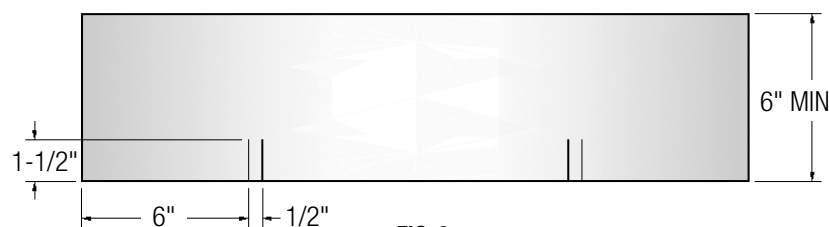

FIG. 8
- B) Measure the width of the rough opening. Cut a length of flashing that is 12" wider than the rough opening. This will allow you to run the flashing 6" up each side. (Fig. 8)
- C) Cut 1-1/2" slits at each end of the flashing as shown below. (Fig. 8)